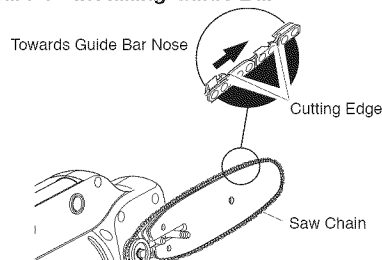

Figure 2 - Chain Position
4. Place chain around drive sprocket, then along top groove of guide bar and around guide bar nose. **Note:** Make sure cutting edges of chain are facing the right direction. Position chain so cutting edges on top of guide bar face guide bar nose (see Figure 2 and indicator on side cover of Pole Saw).